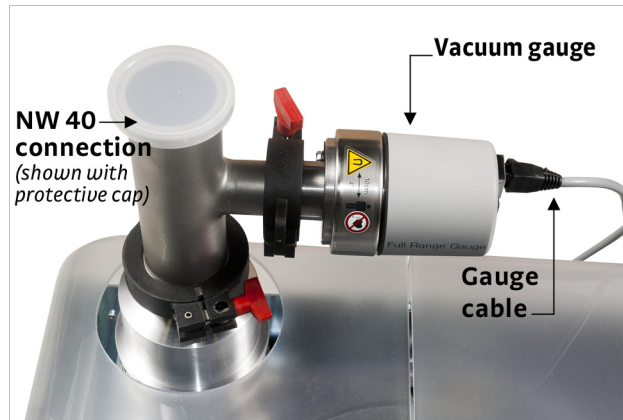

FIGURE 3-27 Vacuum gauge attachment
1. If the vacuum gauge is not already installed on the turbo vacuum pump as shown in FIGURE 3-27, remove the protective caps. Then use the provided NW 40 tee clamps and center rings to attach the gauge as shown in FIGURE 3-27.
2. Attach the supplied gauge cable to the connector (FIGURE 3-27). If not already done, attach the other end of the cable to the connector on the back of the turbo pumping system.